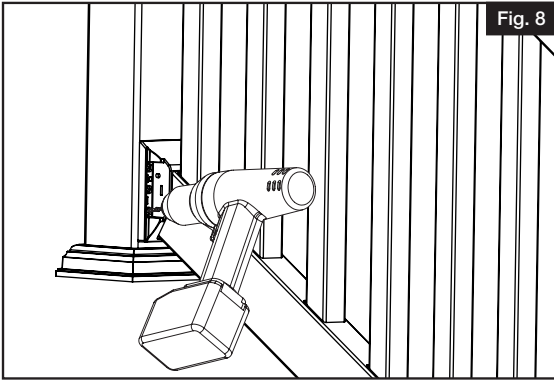

Fig. 8
- c. Ensure bracket is centered to post. Then, using $\frac{1}{8}$ " drill bit, pre-drill first bottom bracket screw hole through bracket hole and post (use the four outside corner holes) (Fig. 8).